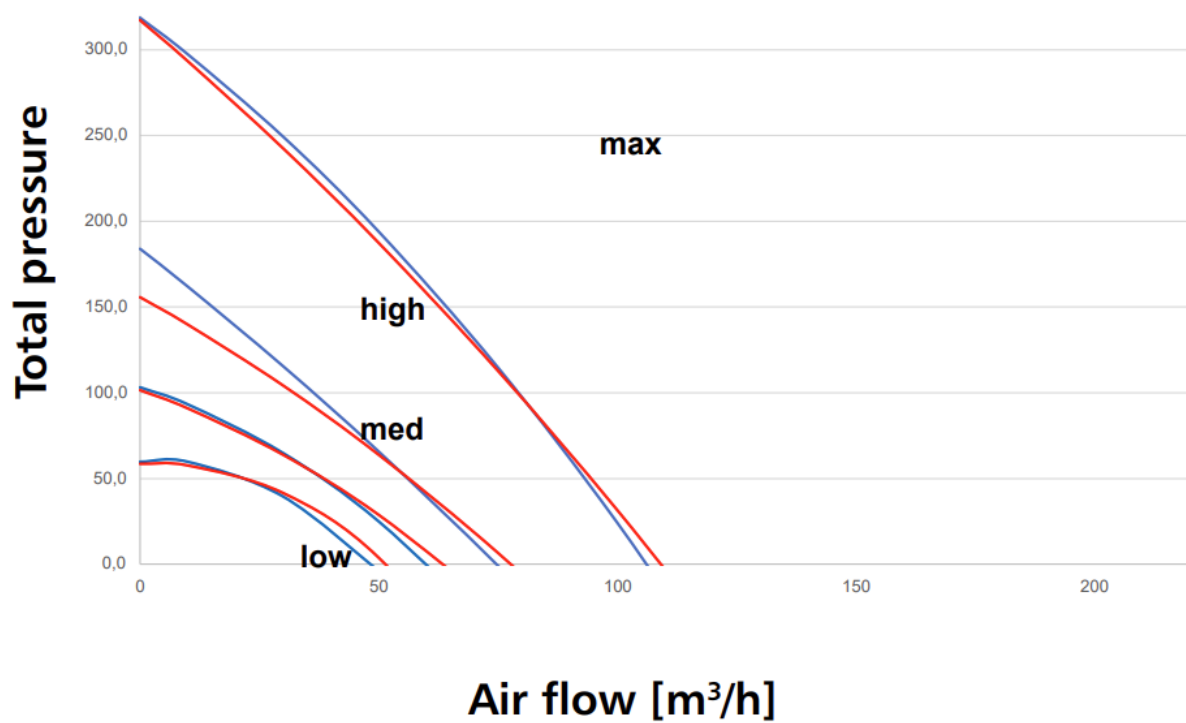

Figure 2 Total pressure for HRU-FlatAIR-80
- HRU-FlatAIR-80-H 80 m3/h (at 100 Pa) [Fig. 2]